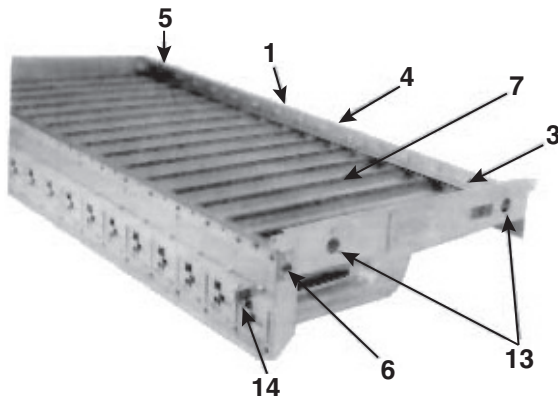

Figure 15. Burner Rack Assembly (Refer to Table 22)
- All models have one burner rack assembly (see Figure 15) per furnace section.
- Individual burner components are shown in Figure 15 and listed in Table 22.